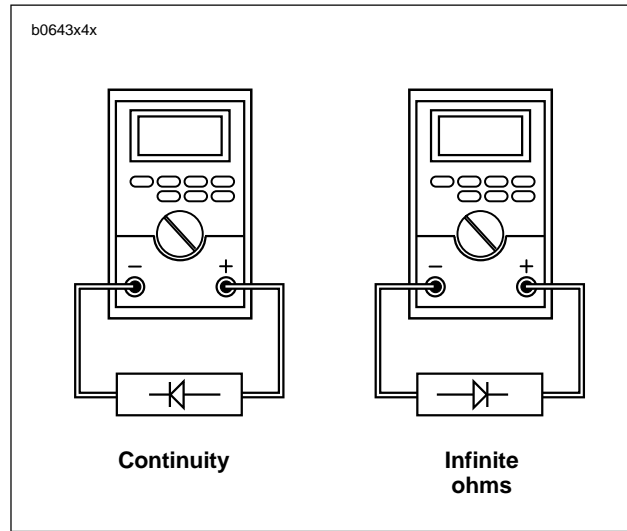

Figure 7-11. Ohmmeter Diode Test
1. Check diode with an ohmmeter as shown in Figure 7-11.